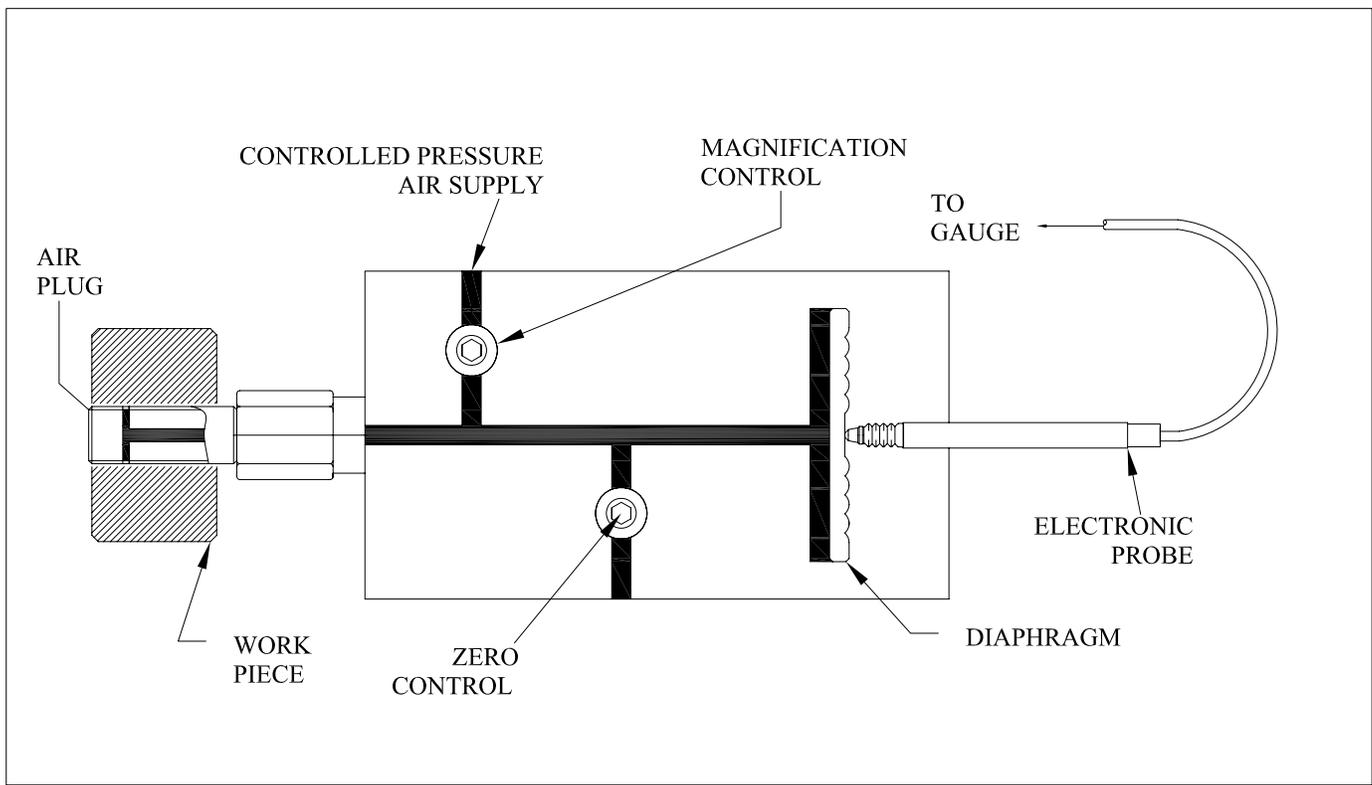

Fig.1 : Operating principle of the AE6 air/electronic transducer
1.1 OPERATING PRINCIPLE (Fig.1)